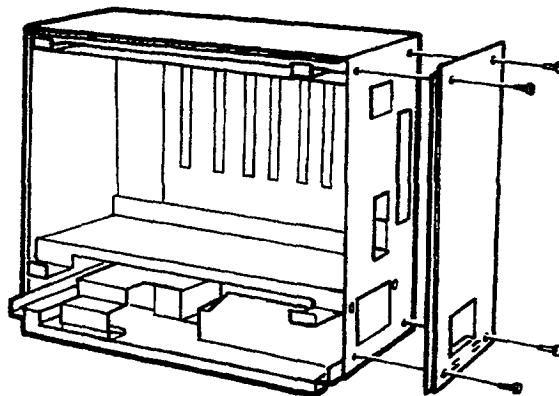

Figure 3-13 Removing the Side Panel
1. Remove the side panel (four screws) from the Basic KSU before installing the expansion KSU. Refer to Figure 3-13 - Removing the Side Panel.